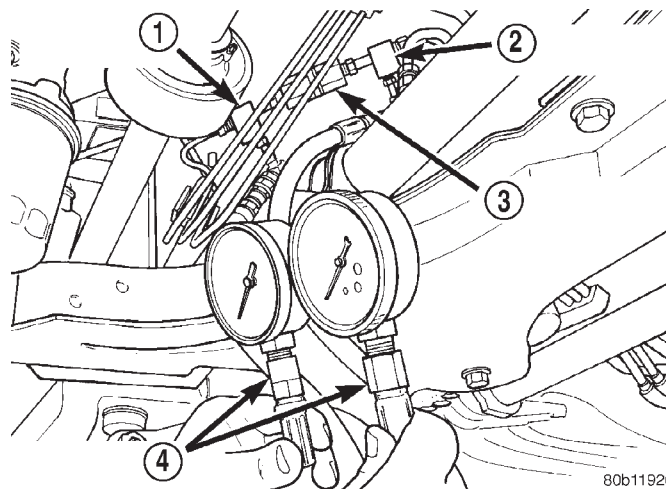

Fig. 24 Pressure Gauges Installed On Pressure Test Fittings
(6) Install a Pressure Gauge, Special Tool C-4007-A into each pressure test fitting (Fig. 24). Bleed air out of hose from pressure test fitting to pressure gauge, at pressure gauge to remove all trapped air. hose.